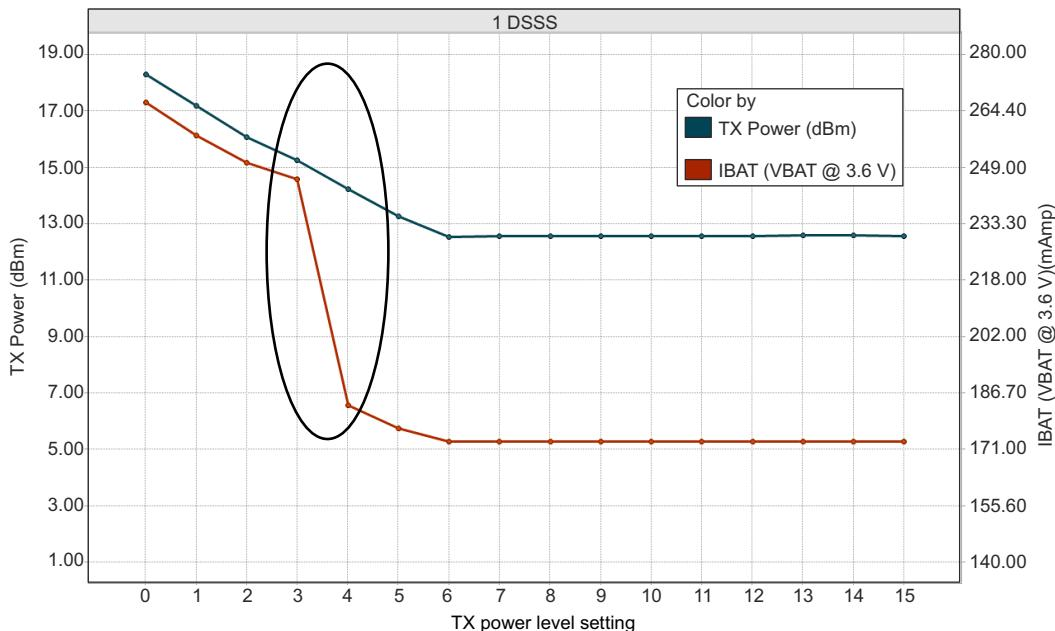
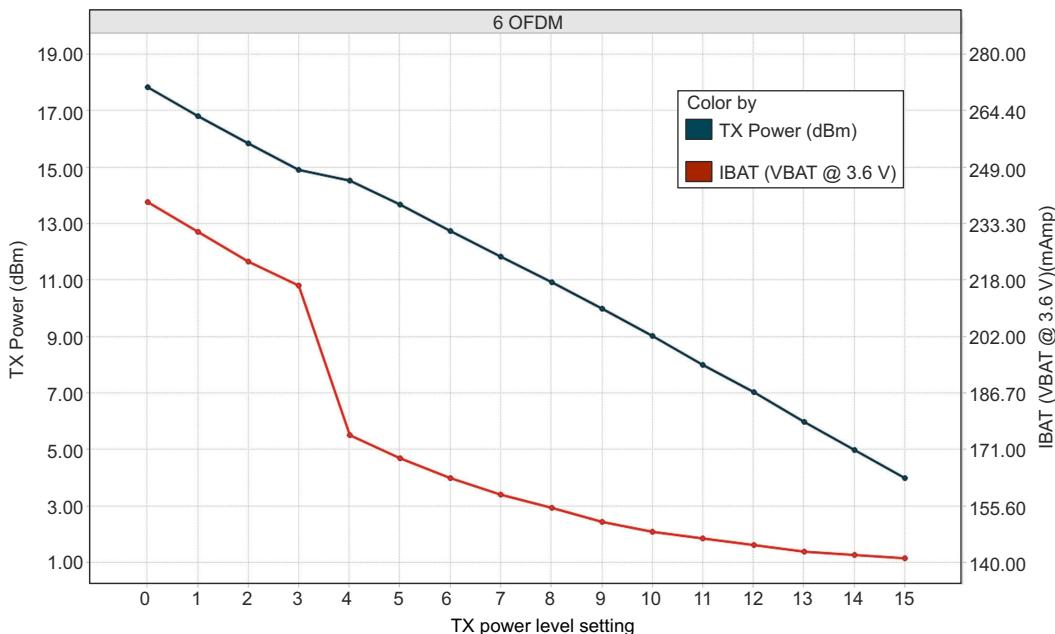
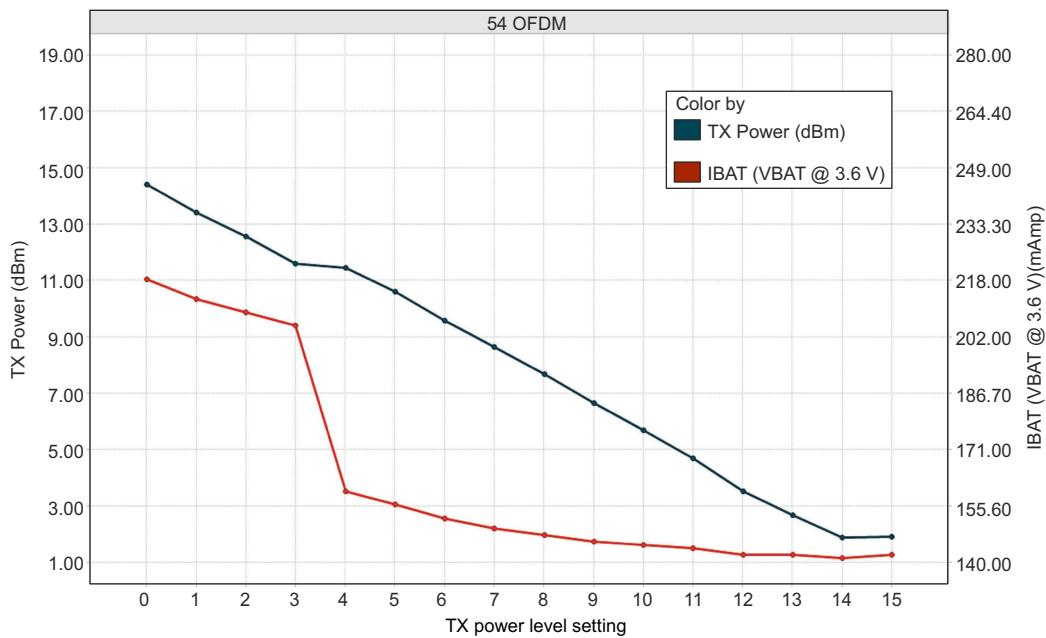

图 7-1. TX Power and IBAT vs TX Power Level Settings (1 DSSS)
图 7-2. TX Power and IBAT vs TX Power Level Settings (6 OFDM)
图 7-3. TX Power and IBAT vs TX Power Level Settings (54 OFDM)
(1) TX power level = 0 implies maximum power (see 图 7-1, 图 7-2, and 图 7-3). TX power level = 4 implies output power backed off approximately 4 dB.
(2) The CC3235x system is a constant power-source system. The active current numbers scale based on the V_{BAT} voltage supplied.
(3) Typical numbers assume a VSWR of 1.5:1.
(4) DTIM = 1
(5) LPDS current does not include the external serial flash. The LPDS number of reported is with retention of 256KB of MCU SRAM. The CC3235x device can be configured to retain 0KB, 64KB, 128KB, 192KB, or 256KB of SRAM in LPDS. Each 64-KB block of MCU retained SRAM increases LPDS current by 4 μA.
(6) The complete calibration can take up to 17 mJ of energy from the battery over a period of 24 ms. Calibration is performed sparingly, typically when coming out of HIBERNATE and only if temperature has changed by more than 20°C. The calibration event can be controlled by a configuration file in the serial flash.
图 7-1, 图 7-2, and 图 7-3 show TX power and IBAT versus TX power level settings for the CC3235S device at modulations of 1 DSSS, 6 OFDM, and 54 OFDM, respectively. For the CC3235SF device, the IBAT current has
In 图 7-1, the area enclosed in the circle represents a significant reduction in current during transition from TX power level 3 to level 4. In the case of lower range requirements (14-dBm output power), TI recommends using TX power level 4 to reduce the current.